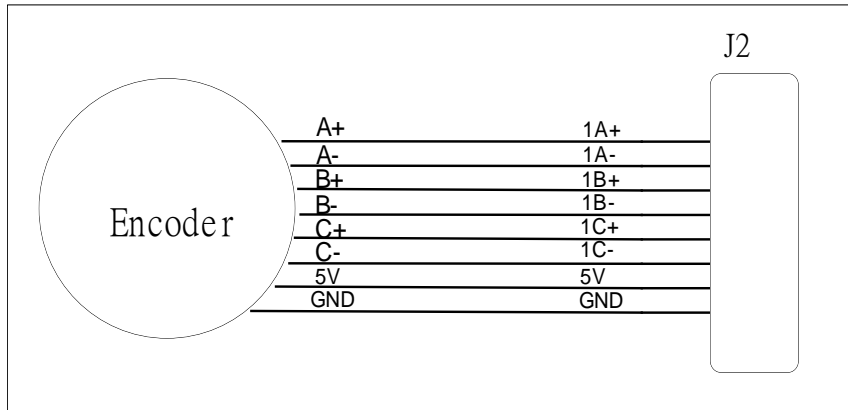

Figure 7. Connection between encoder and PISO-Encoder600(U) card
The typical connection of encoder and PISO-Encoder600(U) is shown in Figure 7. However, if the encoder only provides A+, B+, C+ , GND and 5V connection, which is called open-collector type encoder, we need to add external resistors to pull up voltage as shown in Figure 8.